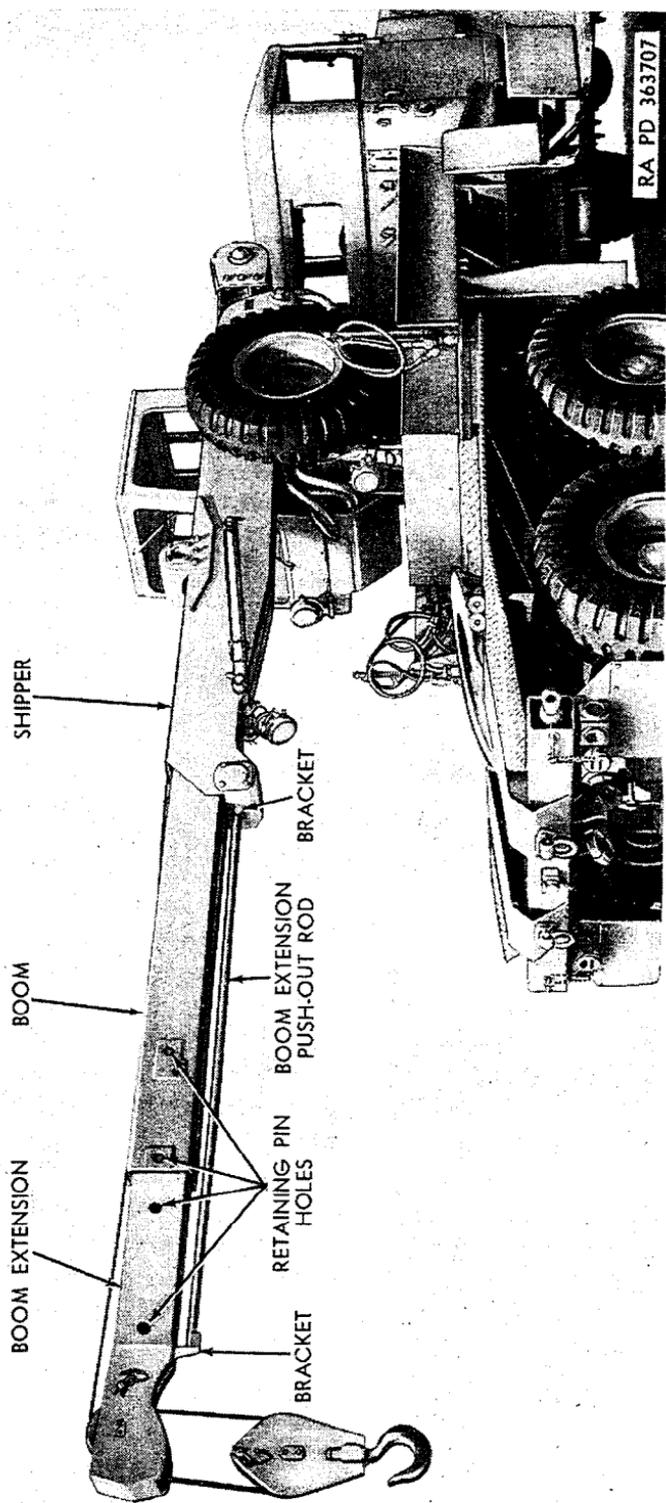

Figure 92. Tractor wrecker truck M246 with push-out rod in place for extending boom extension.
- (1) To push out the boom extension (fig. 89), remove the two boom extension retaining pins (fig. 86) used to secure the boom extension inside the boom. Using the crowd control lever (C, fig. 88) in the crane operator's cab, extend the boom to its maximum length. Place the boom extension push-out rod (fig. 92), assembled from three pieces provided in stowage, between the V-shaped push-out rod brackets (fig. 86) at the end of shipper and on end of extension. Retract the boom slowly, pushing out the boom extension, until holes in boom and extension line up. Insert boom extension retaining pins in holes and remove the push-out rod.